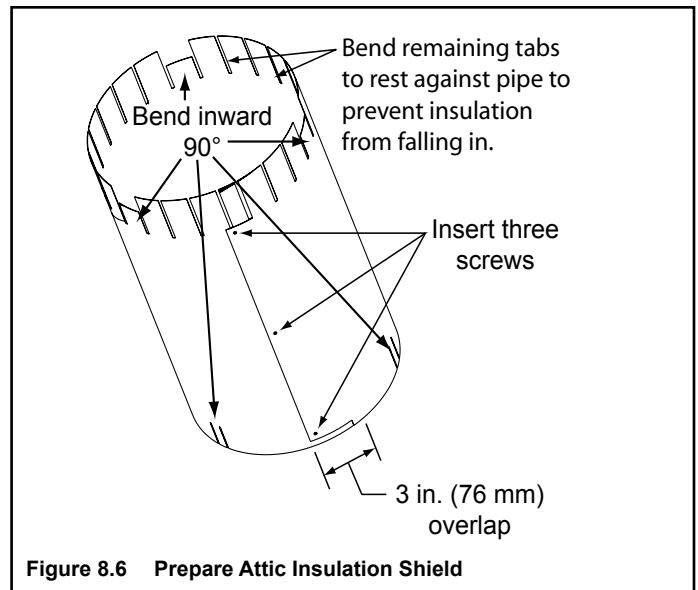

Figure 8.6 Prepare Attic Insulation Shield
- Refer to Figures 8.6 - 8.8.
- Bend three tabs on the bottom of the tube inward to 90° to maintain chimney air space as shown in Figure 8.6.